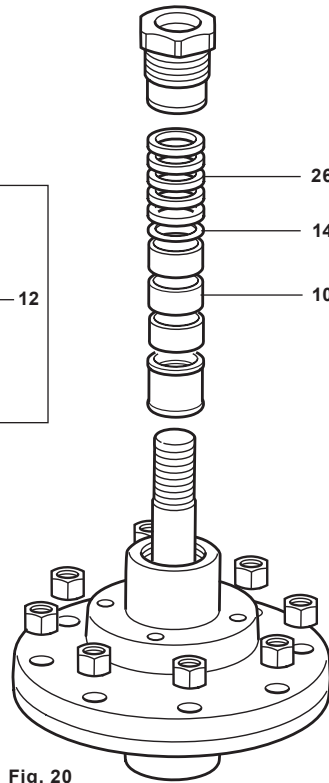

Fig. 20
5.4 Replacement of graphite gland packings (reference Figure 20)
- Remove the lock-nut from the stem (20), and withdraw the plug stem assembly (with cage on balanced versions).
- Withdraw the graphite packing (26) and discard. Remove all metal components, washer (14) and spacers (10) carefully noting how many components have been removed as it will differ on each valve size. Clean and examine these components replacing any that show signs of damage or deterioration.